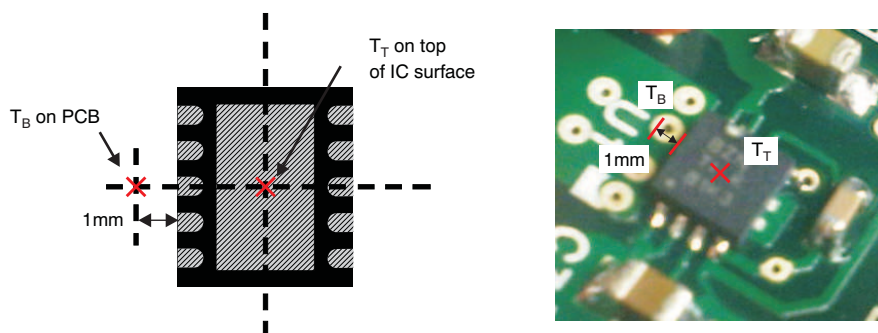

Figure 31. Measuring Points for  $T_T$  and  $T_B$
- $T_B$  is the PCB temperature measured 1mm away from the IC package on the PCB surface (as Figure 31 shows).